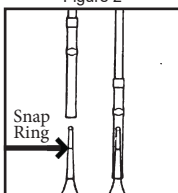

Figure 3
3. Slide the open end of the valve assembly over the tapered tip of the Titret so that it fits snugly to the white reference line (fig. 3).